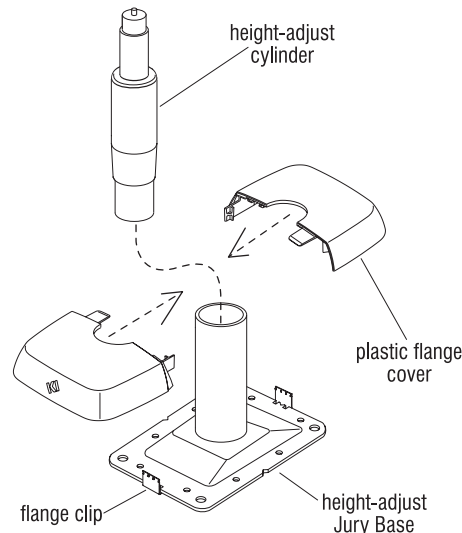

Figure 2
4. Jury Base plastic flange covers are prepared at the factory to fit correctly around the round height-adjust base. Snap the flange covers together around the base and push down to the floor to engage the flange clips and secure in place (Figure 2).
5. Set the height-adjust cylinder into the base as illustrated (Figure 2).